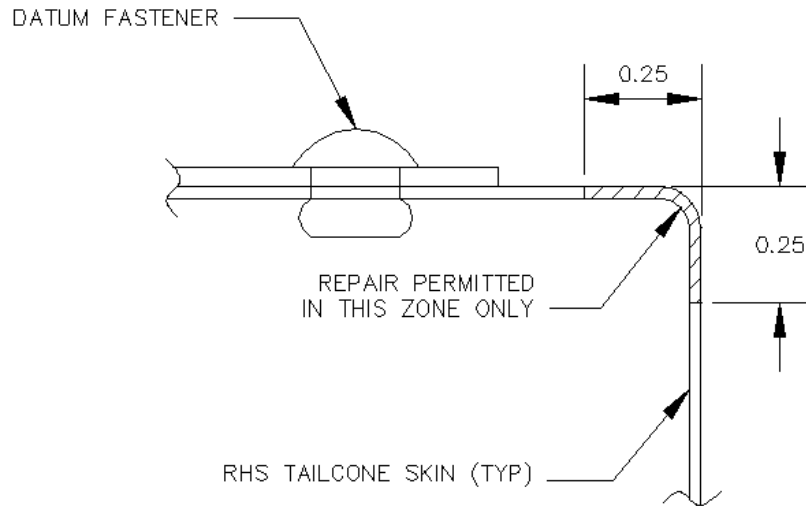

Figure 8 – Section A-A from Figure 7
- is within the 0.5" (12.7mm) wide repair zone shown in Figure 8.